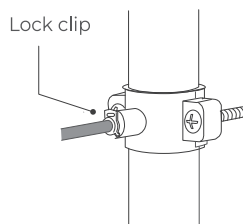

Figure 10
- Pop the lock clip onto the fitting to secure the connection (Figure 10).